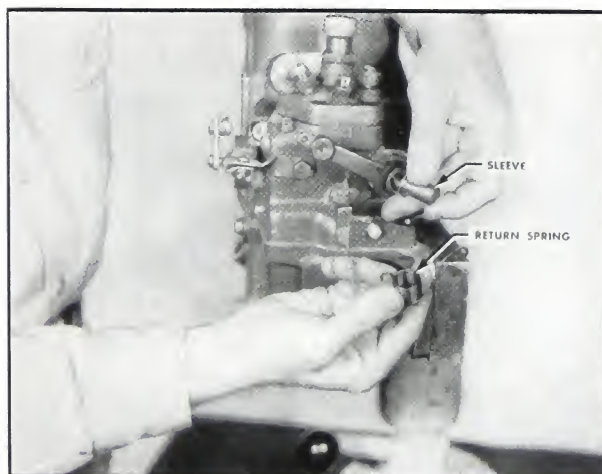

Fig. 5-368. Assemble throttle return spring and sleeve
THROTTLE RETURN SPRING: 1. Assemble the spring sleeve and spring over the eccentric shaft. Fig. 5-368.
2. Hook the short end of the spring under the throttle hand control lever and the long end around the post in the upper housing. Fig. 5-368.